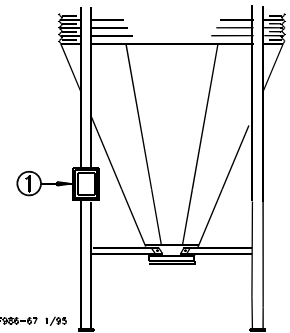

Figure 58. Junction Box
9. Mount the Junction Box to the bin leg, using hardware supplied. **Figure 58**